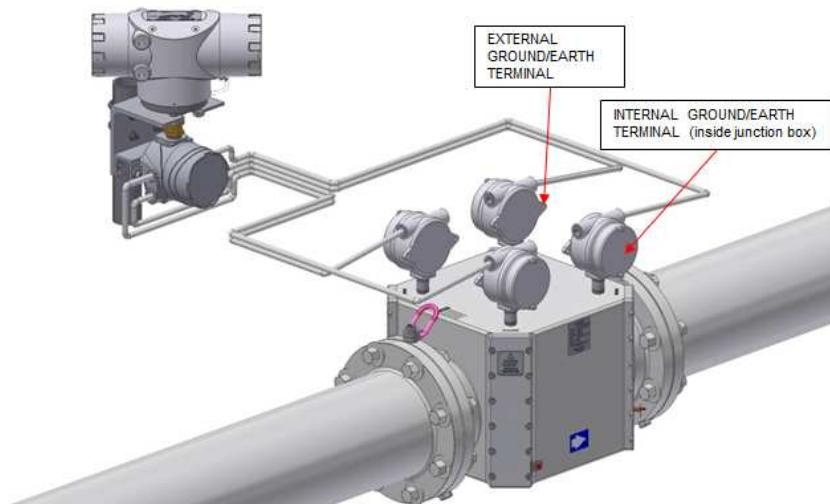
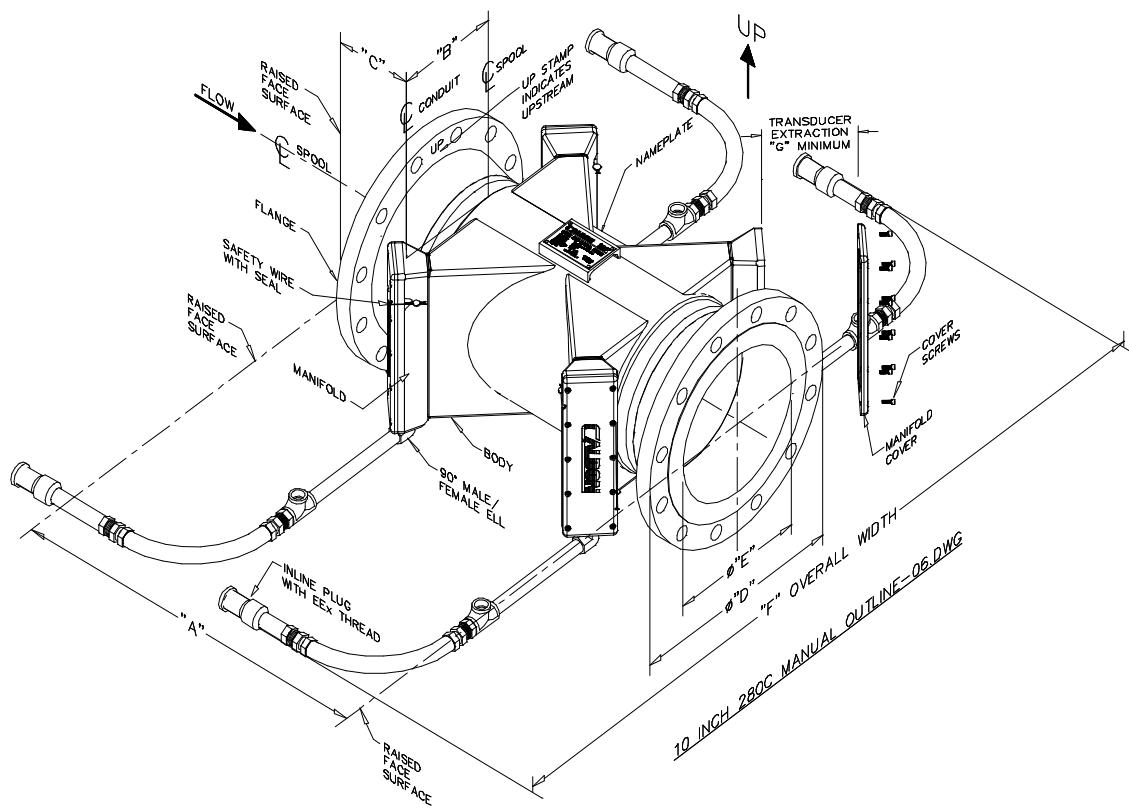

Figure 3-3 LEFM 2xxCi-R or LEFM2xxCiLT-R Meter Body Junction Box Locations
Figure 3-4 LEFM 2xxCiLT-R Meter Body Termination Locations with built in connectors (no junction boxes)
- Multiple J Box on meter configuration: Table 3-1, Table 3-2, and **Error! Reference source not found.**. Refer to Figure 3-3 for meter body junction box locations. If the meter body does not include junction boxes, route the cables directly from the meter body. Refer to Figure 3-4 for this configuration.